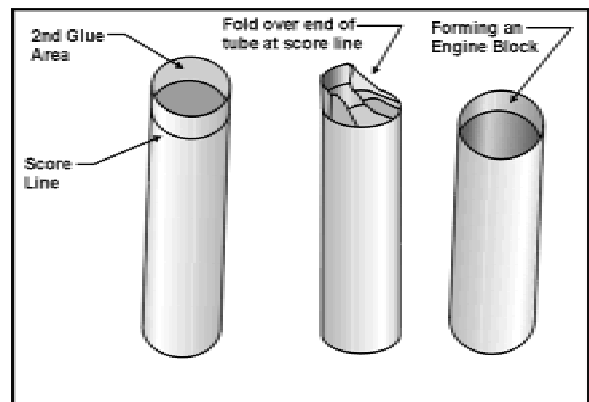

Figure 8
- Returning to the Engine Tube from Step 5, remove the engine casing and the tape that was used to hold the edges down while drying. Run a thin film of glue just inside the end of the Engine Tube with the score line (where it is marked "Second Glue Area", covering $\frac{1}{4}$ " inside the tube. Using your finger, and referring to **Figure 8**, carefully fold the edge of the Engine Tube into the inside of the tube as shown. This will form your Engine Block.